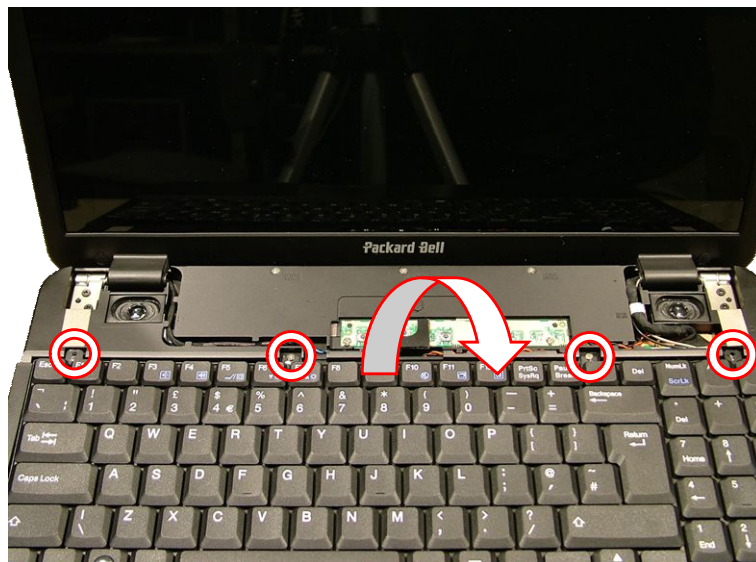

Fig. 16 Location of keyboard screws.
5. Tilt the keyboard gently forward (see Fig. 16).